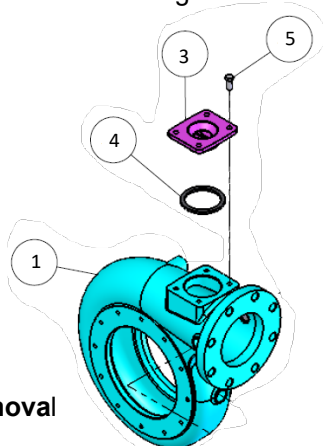

**Figure 6-B. Plug Removal**
2. Remove the four bolts that secure the clean-out cover (Figure 6-C) to the volute.